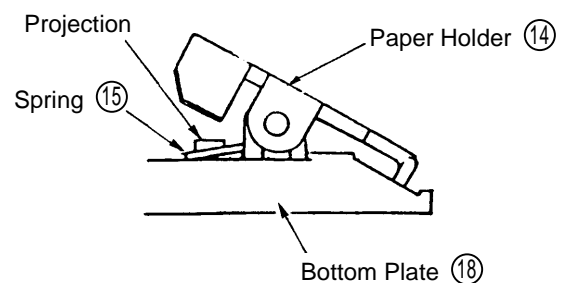

Fig. 6
(3) Remove the Levers (6):
- A. Following the procedures described in Items A to F in Paragraph (1) (Disassembly of the Armature) above, remove the Bottom Plate (18).
- B. Loosen the two M4 x 16 Machine Screws (8), and remove the two Levers (6).
(4) Remove the Paper Holders (14):
- B. With a minus screwdriver or similar tool, disconnect the ends of the two Springs (15) from the projections provided on the Bottom Plate (18) (see Fig. 6)
- C. Finally, extract the two Holder Bars (17) (from the sides on which their D3 E-Type Retaining Rings (16) are mounted), and remove the two Paper Holders (14).